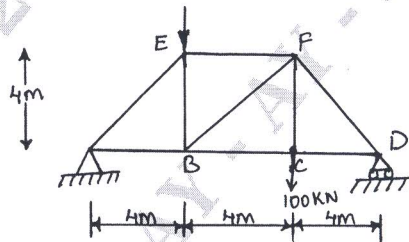

Fig Q7(a)
- 7 a. Calculate the vertical deflection of the joint 'B' and the horizontal movement of support 'D' in the truss shown in Fig Q7(a). The cross section area of each member is 1800mm^2 and Young's modulus for the material of the member is $200 \times 10^3\text{N/mm}^2$. Using unit load method. (12 Marks)